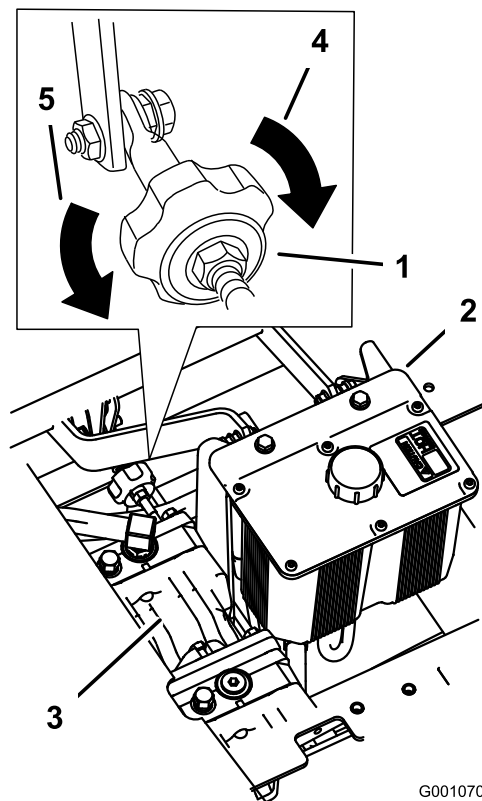

Figure 78
2. Adjust the pump rod length by rotating the knob, in the appropriate direction, until the wheel is still or slightly creeping in reverse (Figure 78).